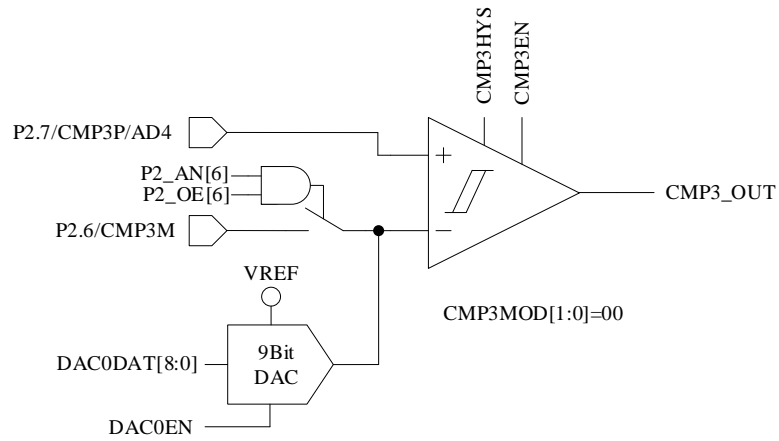

Figure 29-2 Single-comparator Input Mode (CMP_CR1[CMP3MOD] = 00)
- When CMP_CR1[CMP3MOD] = 00, CMP3 works in single-comparator input mode. The connection of input and output pins are shown in Figure 29-2.